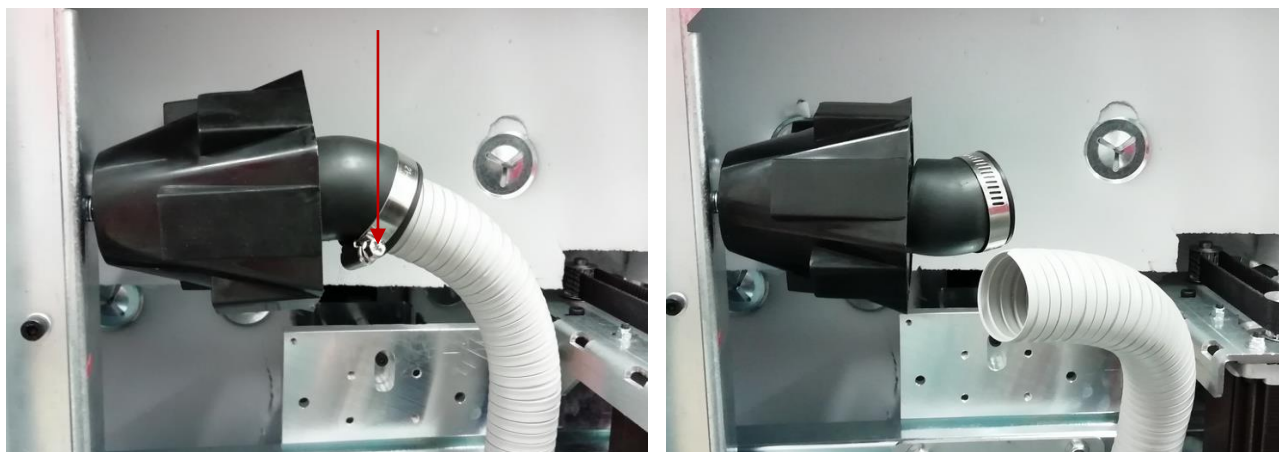

Fig. 122 Unscrewing the metal clamp fixing the supply hose
9. Unscrew the metal bracket that fixes the supply hose and remove the filter hose (Fig. 122).